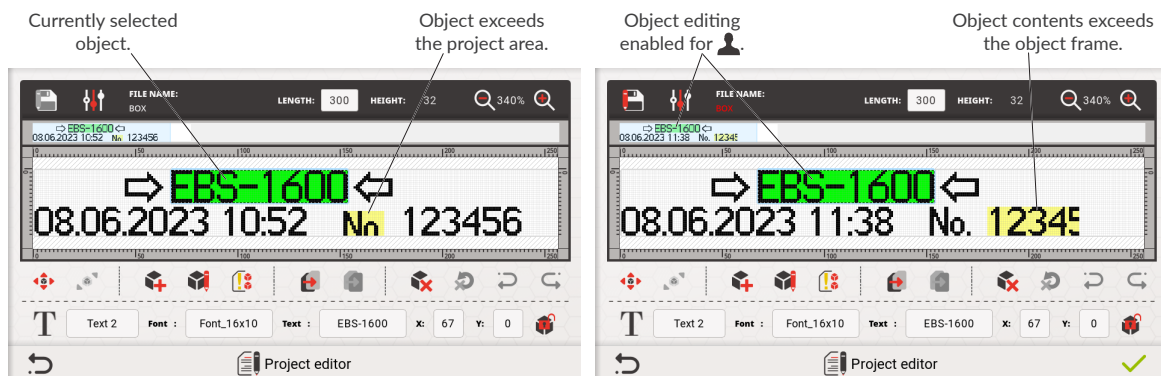

Fig. 55.
- The currently selected object is framed in blue (see Fig. 55).
- Objects highlighted in **green** (see Fig. 55) are enabled to be edited by **OPERATOR**-type users .
- Objects highlighted in **yellow** (see Fig. 55) exceed the project area or their content exceeds the object frame.